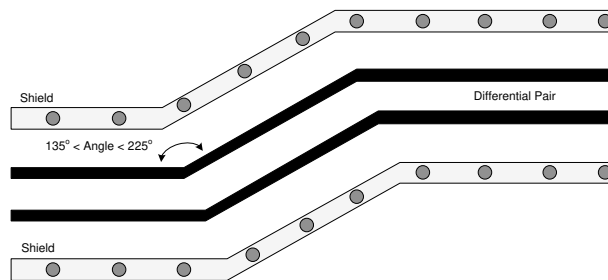

图 9-12. V-by-One Routing Example
- Ensure that the bend angles associated with the differential signal pairs are between 135° and 225°(See 图 9-12).